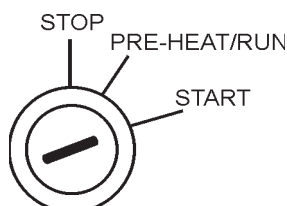
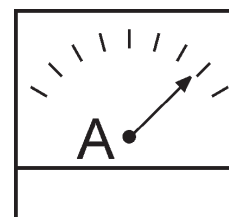

Figure 42. Ignition Switch (Start Position)
Figure 46. Ammeter (No Load)
6. Turn the ignition key to the **START** position (Figure 46). Once the engine starts, release the ignition key and allow it to return to the **PRE-HEAT/RUN** position (Figure 42).
11. The ammeter (Figure 46) will indicate zero amps with no load applied. When a load is applied, this meter will indicate the amount of current that the load is drawing from the generator.